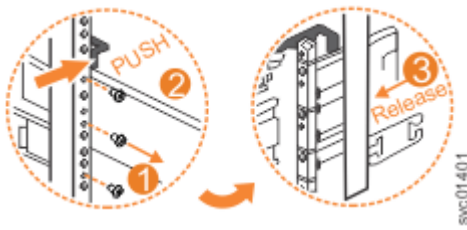

Figure 136. Remove the rail assembly from the rear frame bracket
3. Remove the two screws that attach the inner rail section to the rear bracket, as shown in Figure 136 on page 173.
4. Pull the rail forward away from the rear bracket, as shown in Figure 136 on page 173.